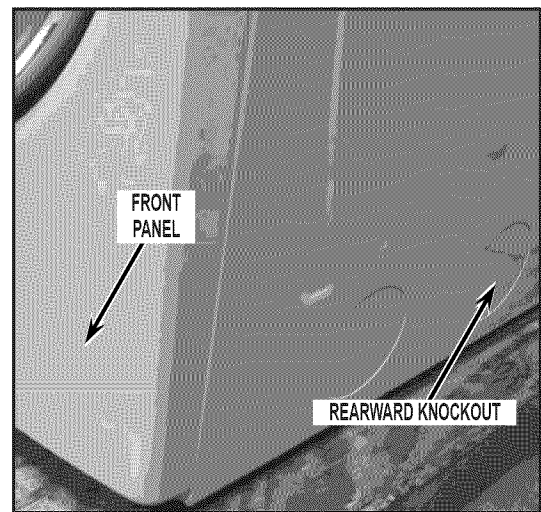

FIGURE 32
- As you are facing the dryer, review the lower section of the right side panel. If two (2) knockout features are present remove the MOST REARWARD KNOCKOUT ONLY. See *Figure 32*.